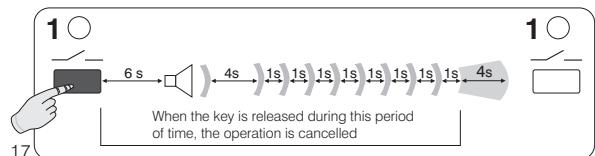

Fig. 17
- Press and hold the **key 1** until the end of the sequence of beeps shown in the figure 17; then let go. The transmitter coupling is erased from the memory of the receiver and **channel 1** is free.